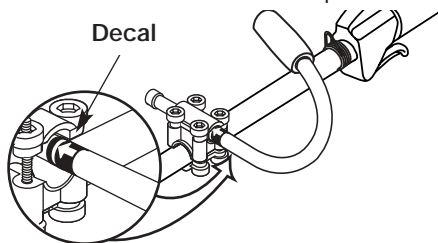

Figure 2
5. Slide the J-handle in or out until the arrow/white line on the decal touches the clamp assembly. You must first loosen the screws if the handle is pre-installed. See Figure 2.